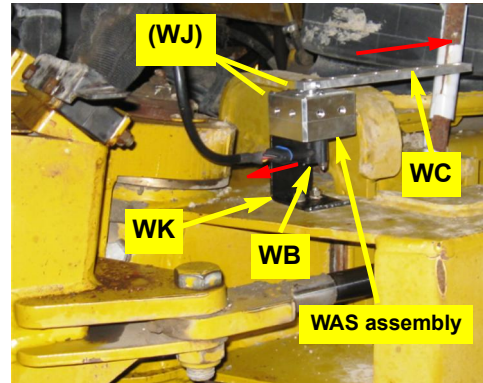

Figure 2d: Installed WAS assembly
- d. Using hardware **WJ** (not visible), mount the WAS assembly from step 1 on the front of bracket **WK**. Mount the WAS assembly with the wire connector of **WB** pointing outward (you will connect the WAS cable later) and the WAS arm **WC** toward the center of the machine (Figure 2d).